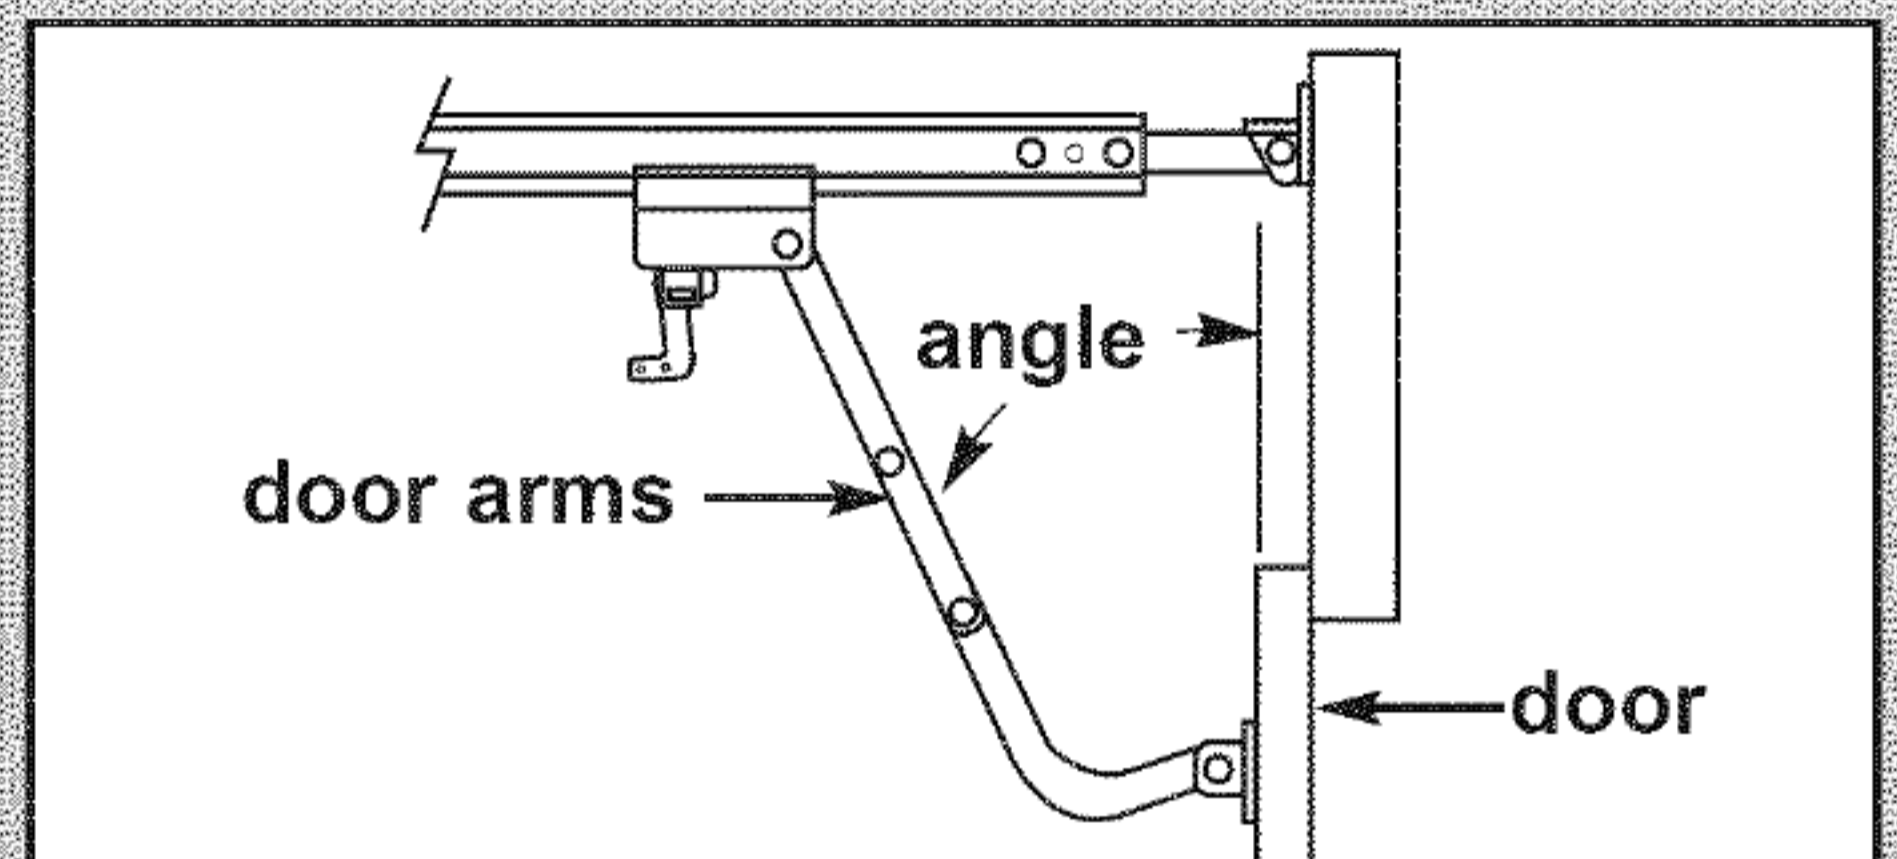

FIG. 2-11 Door arms at angle to door.
**NOTE:** Whenever possible, it is recommended that the door arms assembly be angled away from the door to prevent putting downward force on the door and door bracket. (Fig. 2-11).